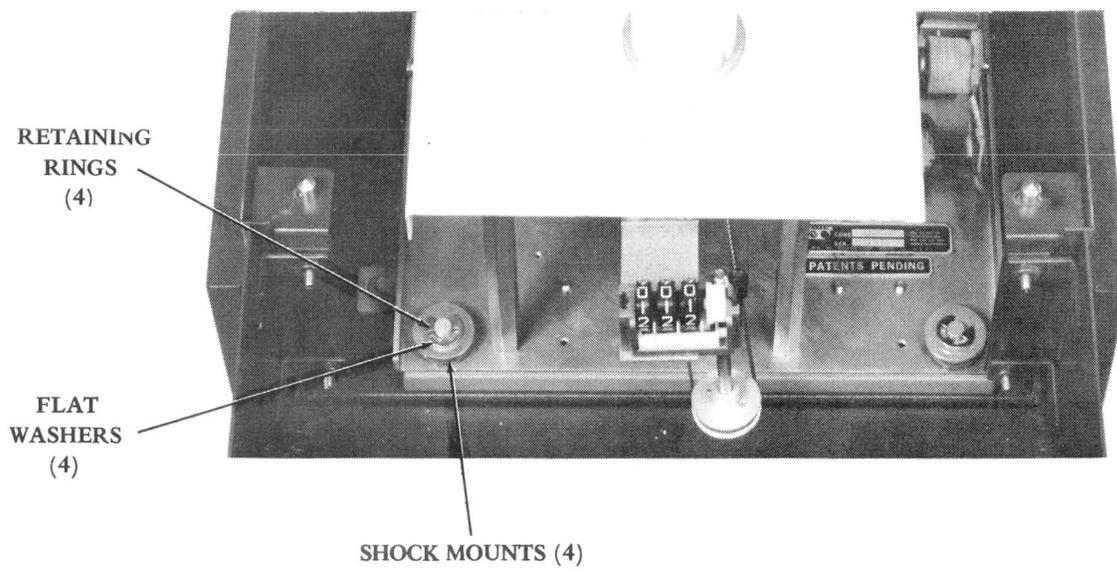

Figure 12 - Tape Transport With Cover Raised
- (1) Remove the TP162730 screw, TP2449 lockwasher, and TP76081 flat washer (underside of flange at top of cabinet) that hold the cabinet top closed.
- (2) Raise and latch the cabinet top.
- (3) Remove four each retaining rings (TP119653), flat washers (TP82833), and shock mounts (TP197822) (Figure 12). Lift tape transport to clear cabinet sides, rotate tape transport, and place it down, across cabinet.